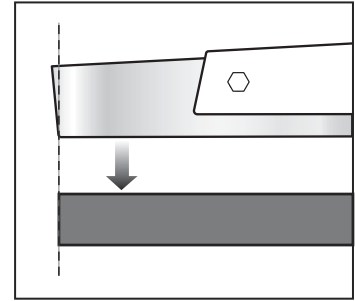

Figure 4-4: Alignment of the Paddle
2. Make sure that the front edge is aligned to the front edge of the Image Receptor. See Figure 4-4.
To align the edge when it is not aligned as shown in Figure 4-4: